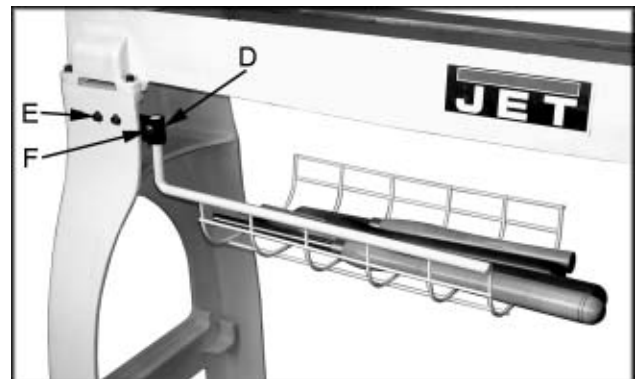

Fig. 4
- Mount the bracket (D, Fig. 4) to the inside of the lathe leg with two 5/16"-18 x 1-1/2" hex socket cap screws, four 5/16" flat washers and two 5/16" hex nuts (E, Fig. 4).
- Place the arm of the tool basket into the bracket and secure with a 5/16"-18 x 5/8" set screw and tighten the 5/16" hex nut (F, Fig. 4). Line up the notch in the arm with the set screw so the tool basket can pivot.